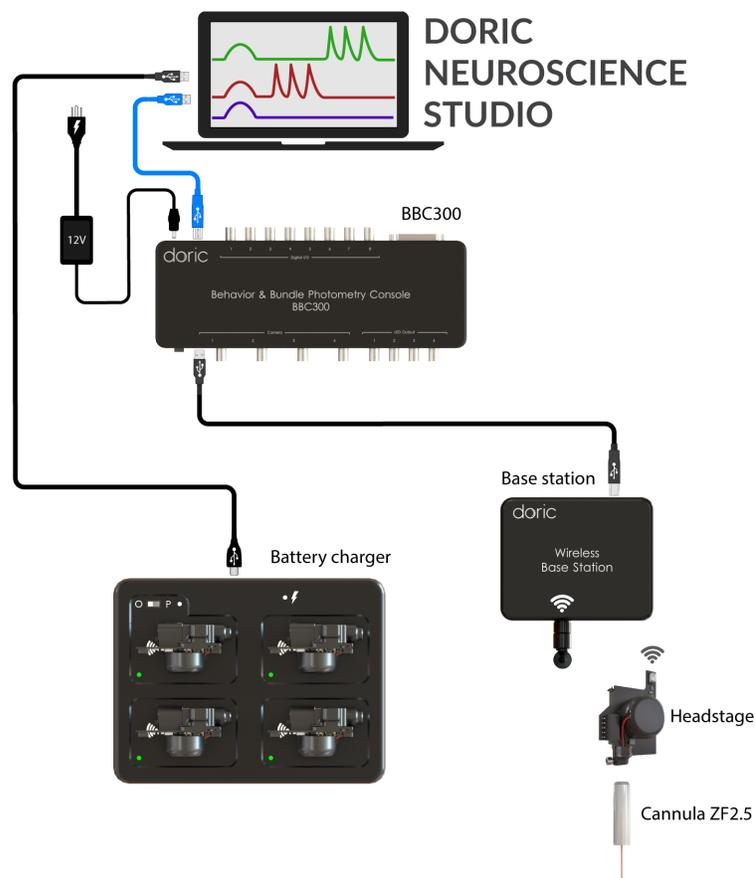

Figure 2.3: Wireless Fiber Photometry system setup using a BBC300 console
5. If you have a BBC300 console (Figure 2.3): Using the USB-B cable, connect the base station to one of the USB-B ports on the console.